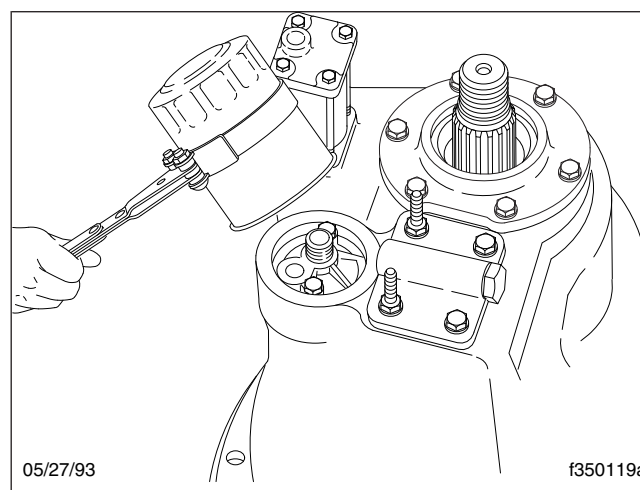

Fig. 3, Meritor Axle Oil Filter Removal
3. If equipped with an oil pump, remove the axle oil filter. Use a suitable filter strap wrench; see Fig. 3. Discard the old filter.